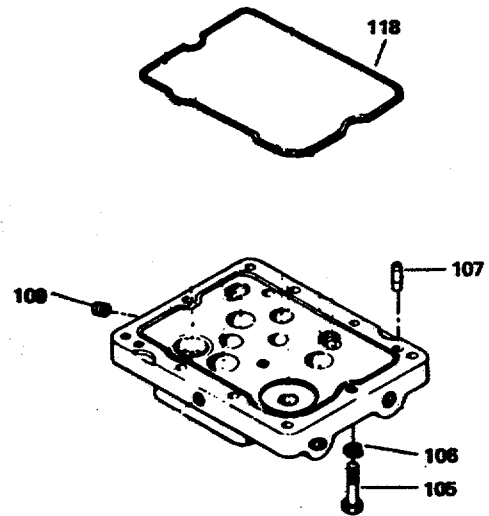

Figure 12-24. Base Assembly
- (20) Lubricate base oil seal (118, figure 12-24) and place it in groove on base. Line up pins (107). Assemble base to case and secure it with lockwashers (106) and screws (105). Check bushing rotation for freeness before tightening screws.